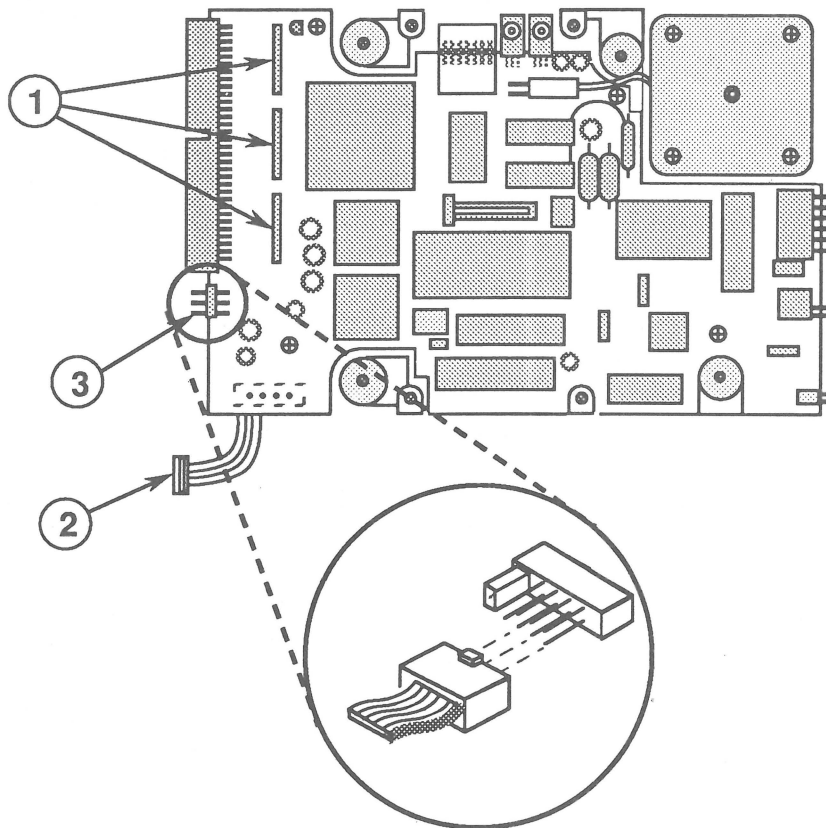
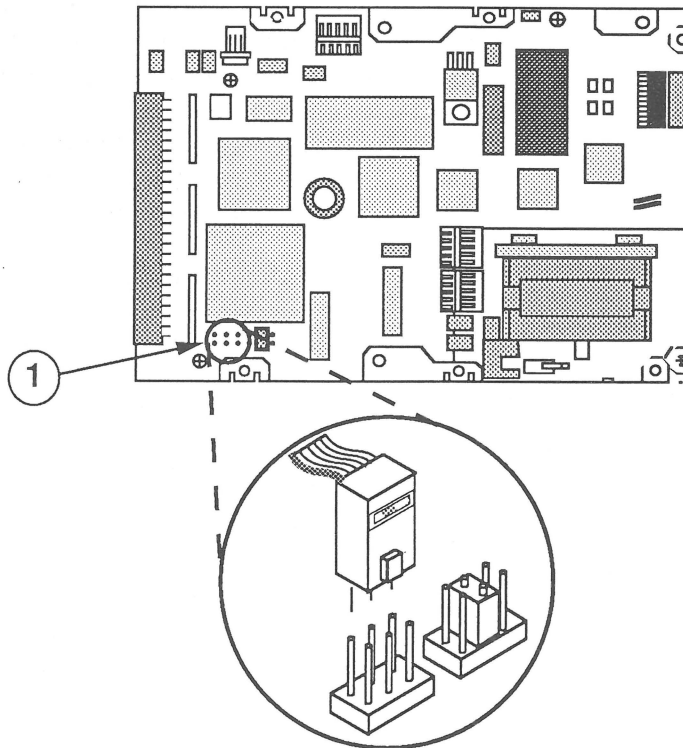

FIGURE 7
FIGURE 8
2. Disconnect the three resistor packs (Figure 7, #1) from the controller board. To do this, use needlenose pliers and pull the resistor packs straight up.
3. Disconnect the power cable (Figure 7, #2). (On some drive assemblies, the power cable is located on the opposite side of the hard disk.)
4. Identify the graphic (Figure 7 or 8) that shows the SCSI connector configuration (Figure 7, #3 or Figure 8, #1) of your hard disk assembly.
IMPORTANT: You must connect the customer's SCSI select cable to six unkeyed connector pins on the controller board. The SCSI connectors differ in design and location between drive models. **For models represented by Figure 7, be sure to install the SCSI cable with its tab ("key") pointing up.** **For models represented by Figure 8, be sure to install the SCSI cable with its tab pointing toward the outside edge of the controller board.**
- **Figure 7:** Attach the SCSI cable connector (tab up) to the three pairs of pins nearest the outside edge of the board. On some models, one or more of the three outside pairs of pins may have small jumpers installed; if so, remove the jumper(s).
- **Figure 8:** Attach the cable connector (tab out) to the three **outermost** pairs of pins on the 12-pin connector (the three pairs of pins nearest the large, 50-pin SCSI connector).